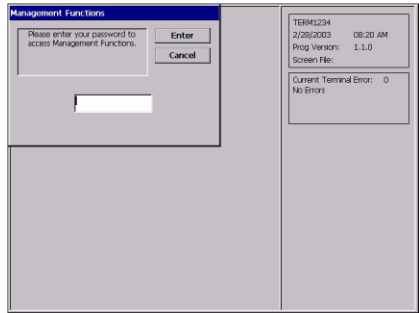

Fig. 7-2. Password entry.
1. Press and hold down the **Control (CTRL)** key (blank key in lower right corner of alphanumeric keypad). While holding down the **CTRL** key, press the number **(1)** key. Release both keys. The Password Entry screen appears. (Figure 7-2)